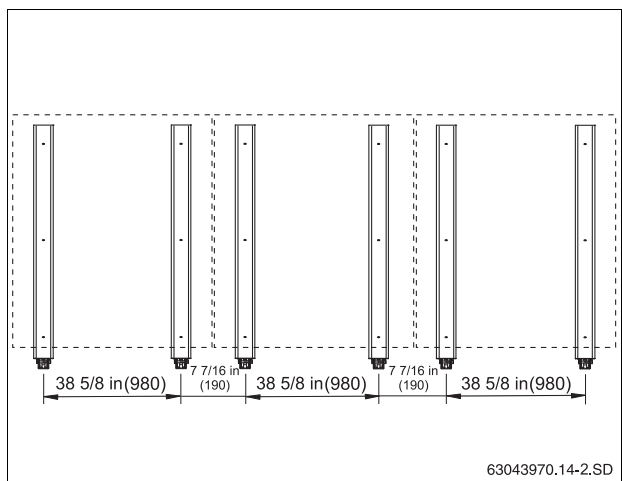

Fig. 25 Version for maximum loads, 3 portrait collectors
**5.2.2 Version for higher loads (accessory, Fig. 25)**